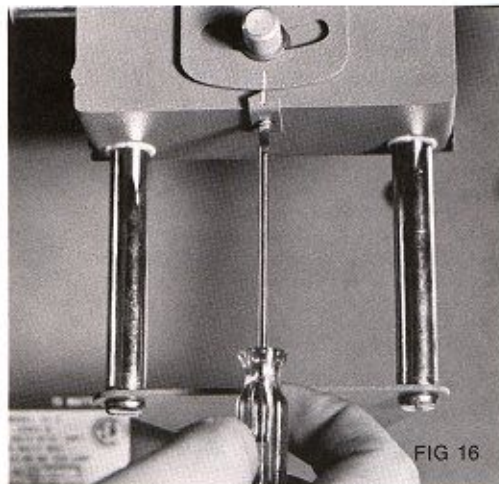

FIG 16
- If necessary, re-adjust lower indicator by loosening the mounting screw and aligning with the upper indicator (see fig. 16).